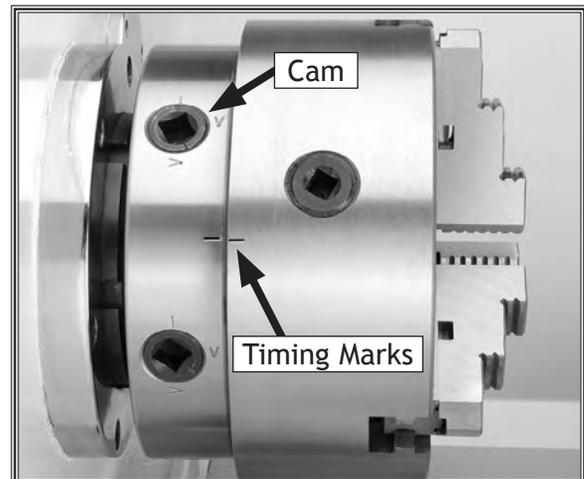

Figure 26. Tightening the camlocks when the chuck is in time with the spindle.
3. If stamped with chuck and spindle timing marks (**Figure 26**), align the marks and the camlock studs in the back of the chuck with the holes on the spindle face, and slide the chuck onto the spindle.